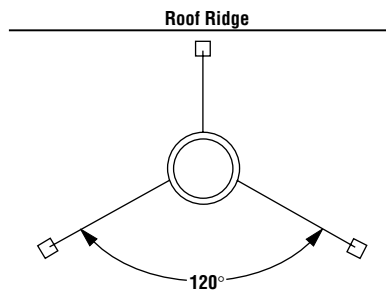

Figure 31
Note: If chimney extends more than 8' (2.4 m) above roof surface, guy wires are also recommended. Use three (3) guy wires, attach to locking band assembly, extend and secure to roof in a triangular pattern (Figure 31). Guy wires are not supplied by the manufacturer.